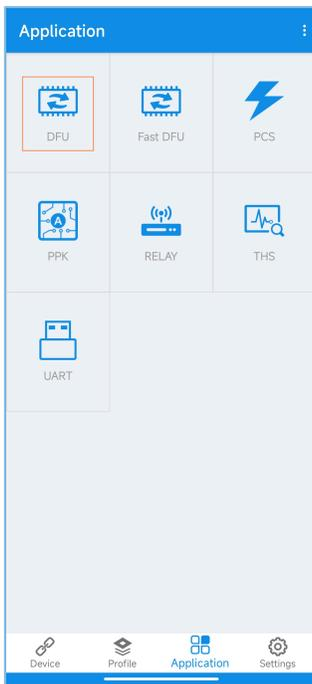

Figure 4-7 Clicking DFU
1. Start GRToolbox; click **Application** > **DFU**, as shown in Figure 4-7.